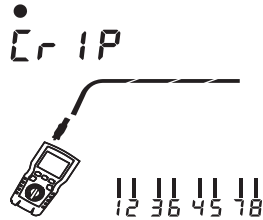

Figure 6.13 Connects to RJ45 connector
- (1) Start the tester, set the mode selection knob to the TEST mode, and press the "PORT" key to switch to the crimping test port. The interface is shown in Figure 6.13, with the test indicator "Cr IP" displayed in the upper left corner and the wiremap diagram flashing below.
- (2) Insert the crimped RJ45 connector into the RJ45 socket of the crimping test port. The crimping status of RJ45 connector will be displayed for about 1 second.